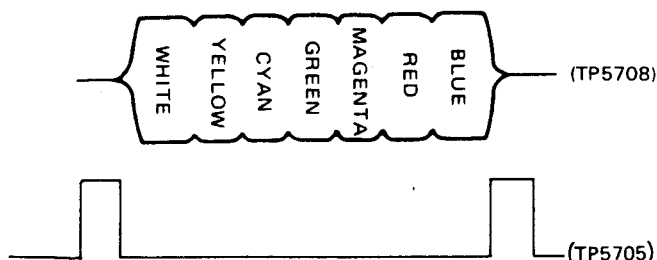

Figure 2-20.
2. Adjust T5701 so that the amplitude difference among each chroma signal becomes the least as shown in Fig. 2-20.